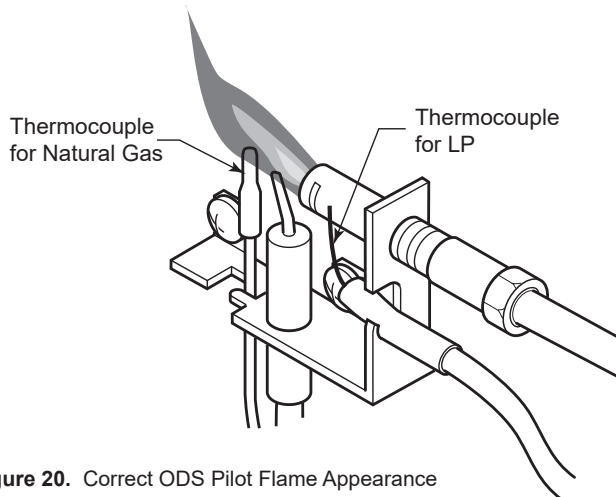

Figure 20. Correct ODS Pilot Flame Appearance
The pilot flame must always be present when the heater is in operation. It should just touch the top of the thermocouple tip for natural gas. Refer to Figure 20 for correct pilot flame.
- Inspect ODS pilot for operation and accumulation of lint at air intake holes. (Figure 20)